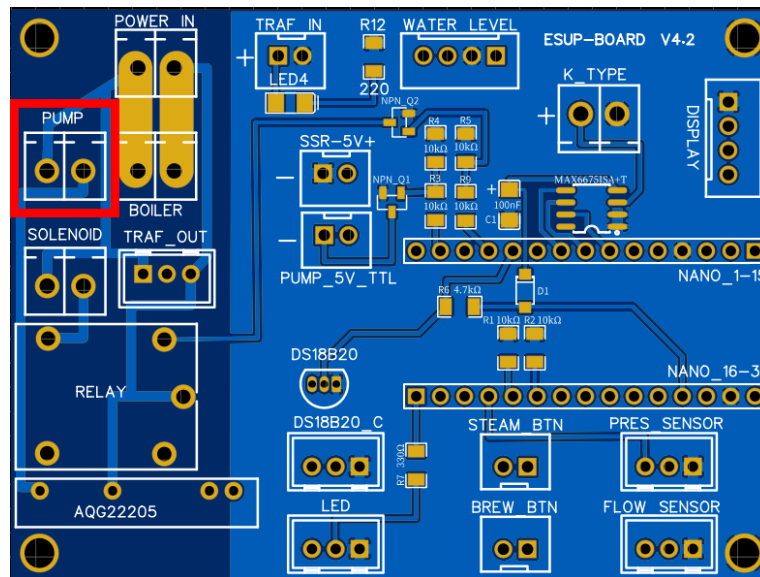

Fig.11.1
- Take PUMP cable and connect it from the main board to the pump (fig.11.1)